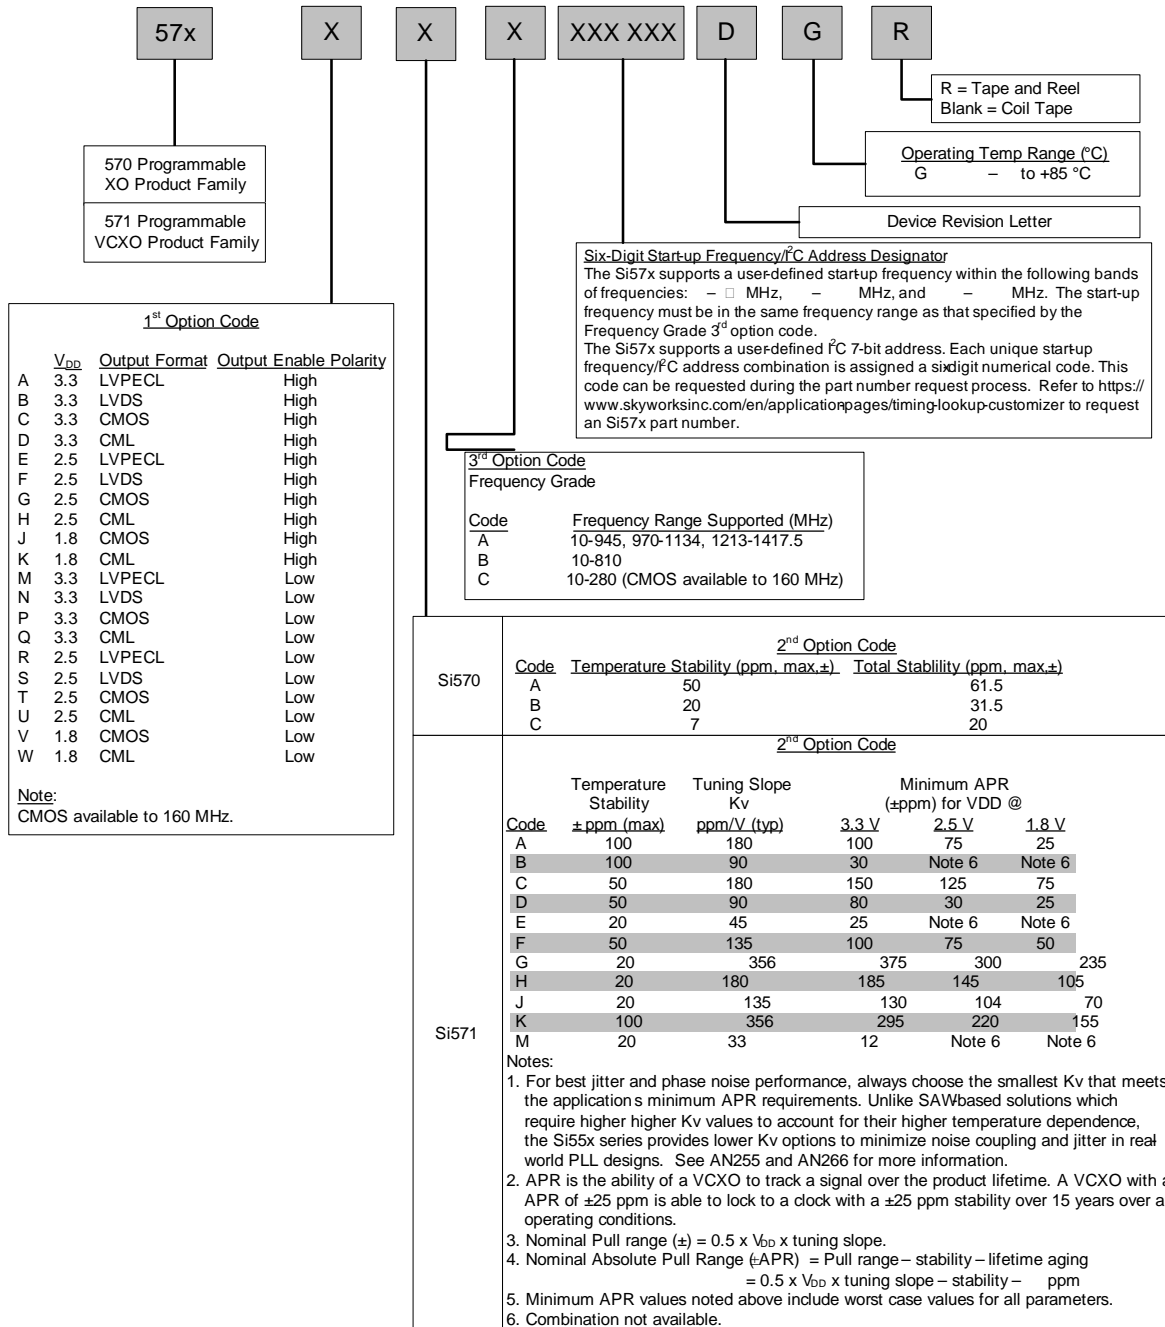

Figure 6. Part Number Convention
- Added Si570 7 ppm Total Stability Ordering Option to Figure 6 on page 31.
- Added Si570 20 ppm Total Stability Ordering Option to Figure 6 on page 31.